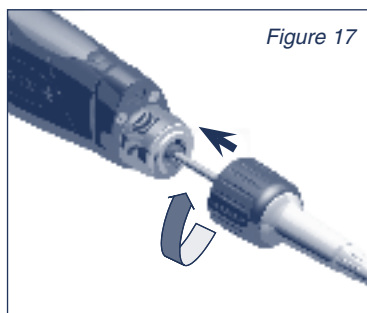

Figure 17
- 8) Reassemble the upper part of the tip-holder and the connecting nut, and then refit to the body of the pipette by rotating the connecting nut clockwise until it is finger tight (figure 17). Fit the seal and reassemble the lower part of the tip-holder. Refit the tip ejector.